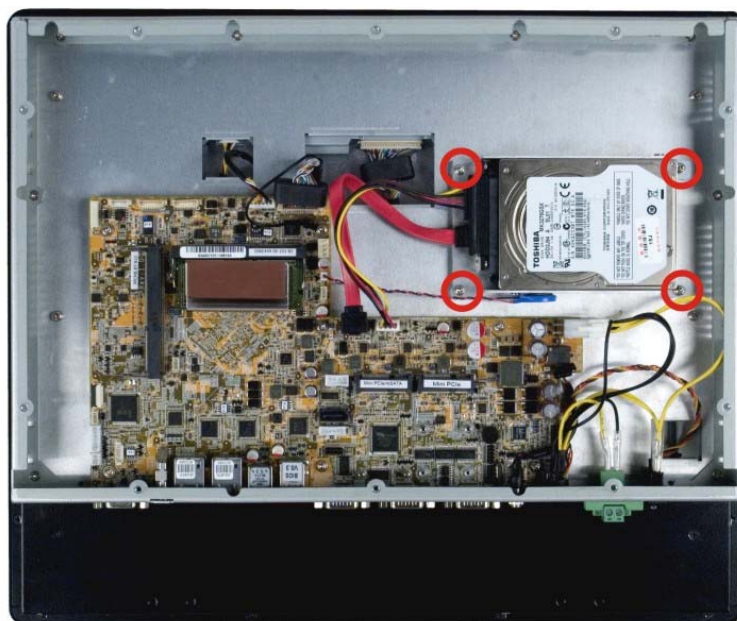

Figure 3-7: PPC-F17B-BTi HDD Installation
Step 5: Reinstall the HDD bracket into the PPC-F12B/15B/17B/19B-BTi and fasten the four hard drive bracket screws (Figure 3-7) Connect the SATA and SATA power cables.